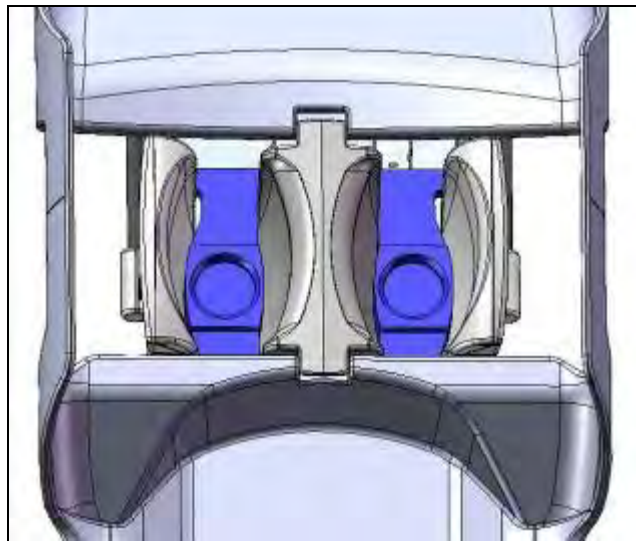

Figure 59 : 16 Channel - Phantom Positioner Set-Up
2. Install and connect the three coil cables of the 16-channel coil set (refer to Figure 59) to the Vanguard table and plug in the Vanguard system cable into the P-port receptacle. Close the catchment tray.
3. Move the lateral coils to their furthest outward position and slide them to their highest upward position. Locate the phantom positioners on either side of the medial coil as shown in Figure 59.